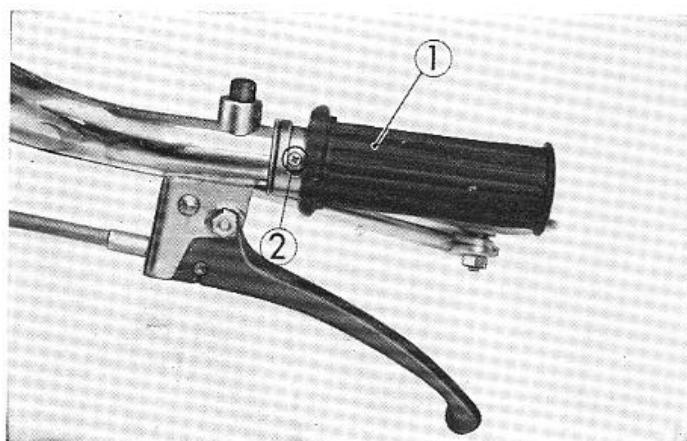

Fig. 1-30 ① Grip rubber ② Screw
- ① When excessive play exists in the direction parallel to the shaft, turn up the grip rubber and check the screw for looseness. (Fig. 1-30)